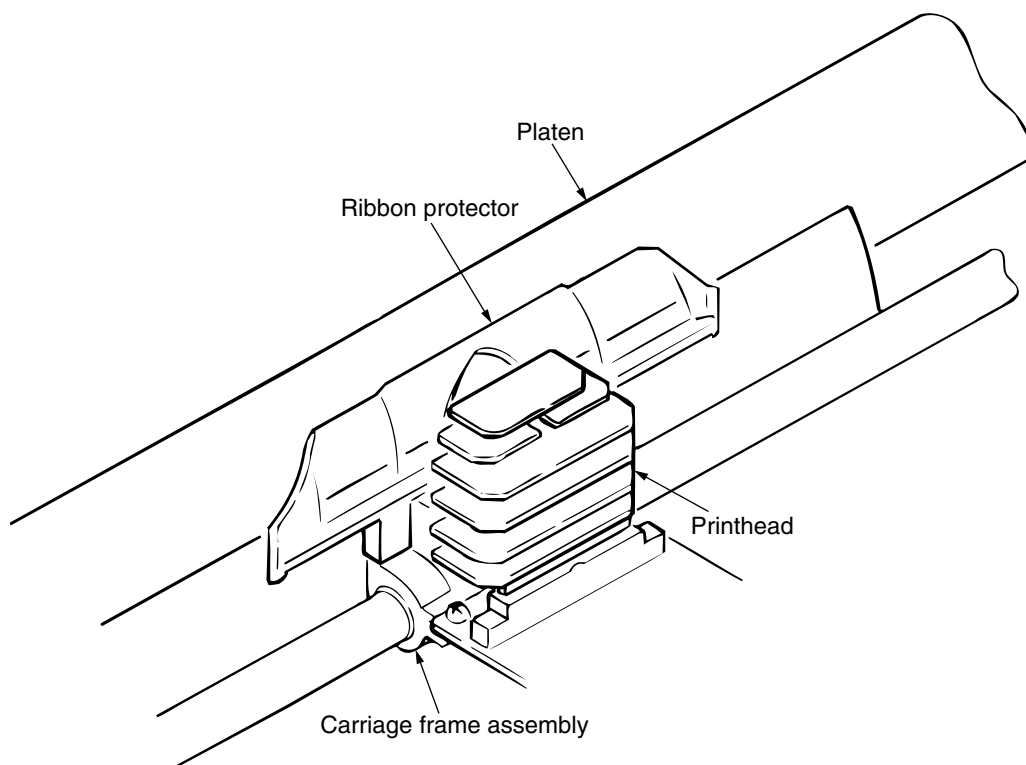

Figure 2-15
(4) Top line print mechanism (See Figure 2-15.)